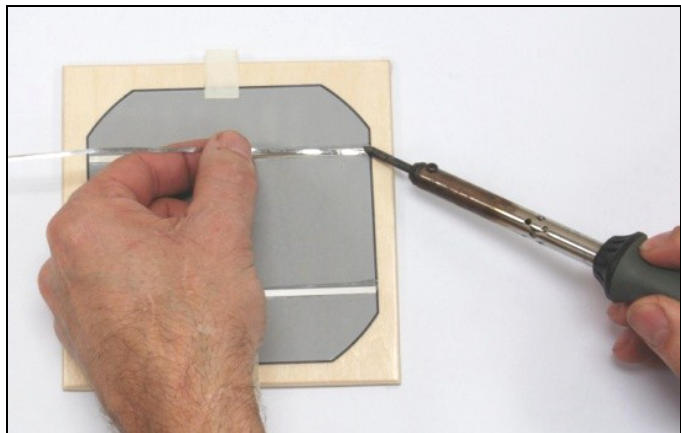

Figure 17
- ✓ Place a 10" piece of tabbing wire on the cell as shown in Figure 17. Although the tabbing wire is pre-tinned with solder, improved heat transfer is achieved by adding a 1/4" or so of solder to your soldering iron tip.